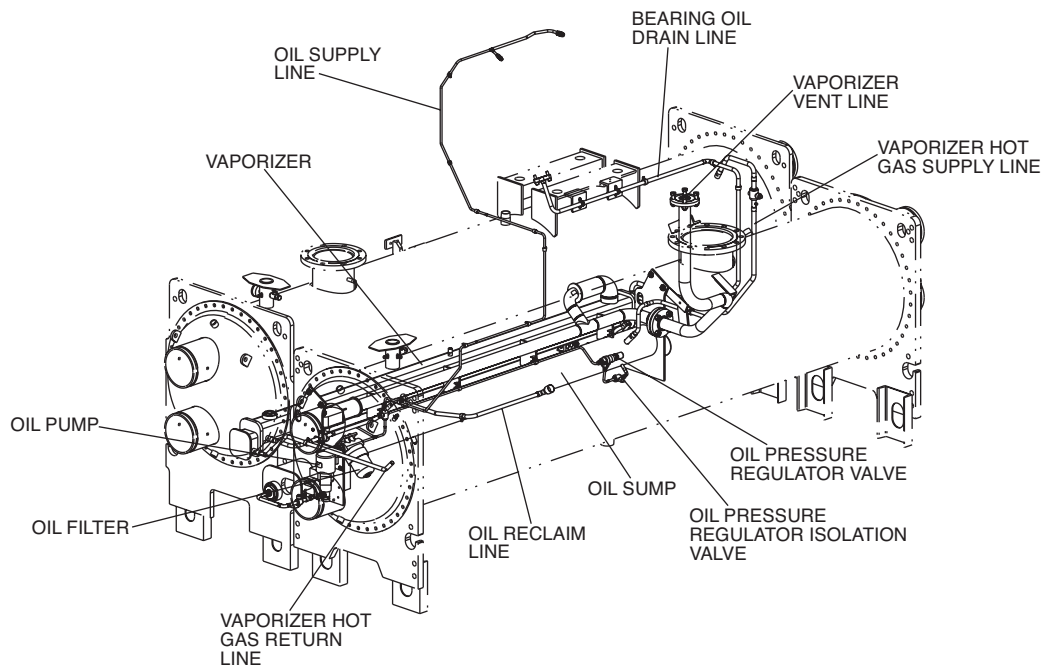

Fig. 25 — Oil Reclaim Piping
3. Cut the bearing oil drain line near the oil sump (Fig. 25).
4. Unbolt the vaporizer vent line flange shown in Fig. 25.
5. Cut the oil supply line as shown in Fig. 25.
6. Cut the oil reclaim line as shown in Fig. 25.